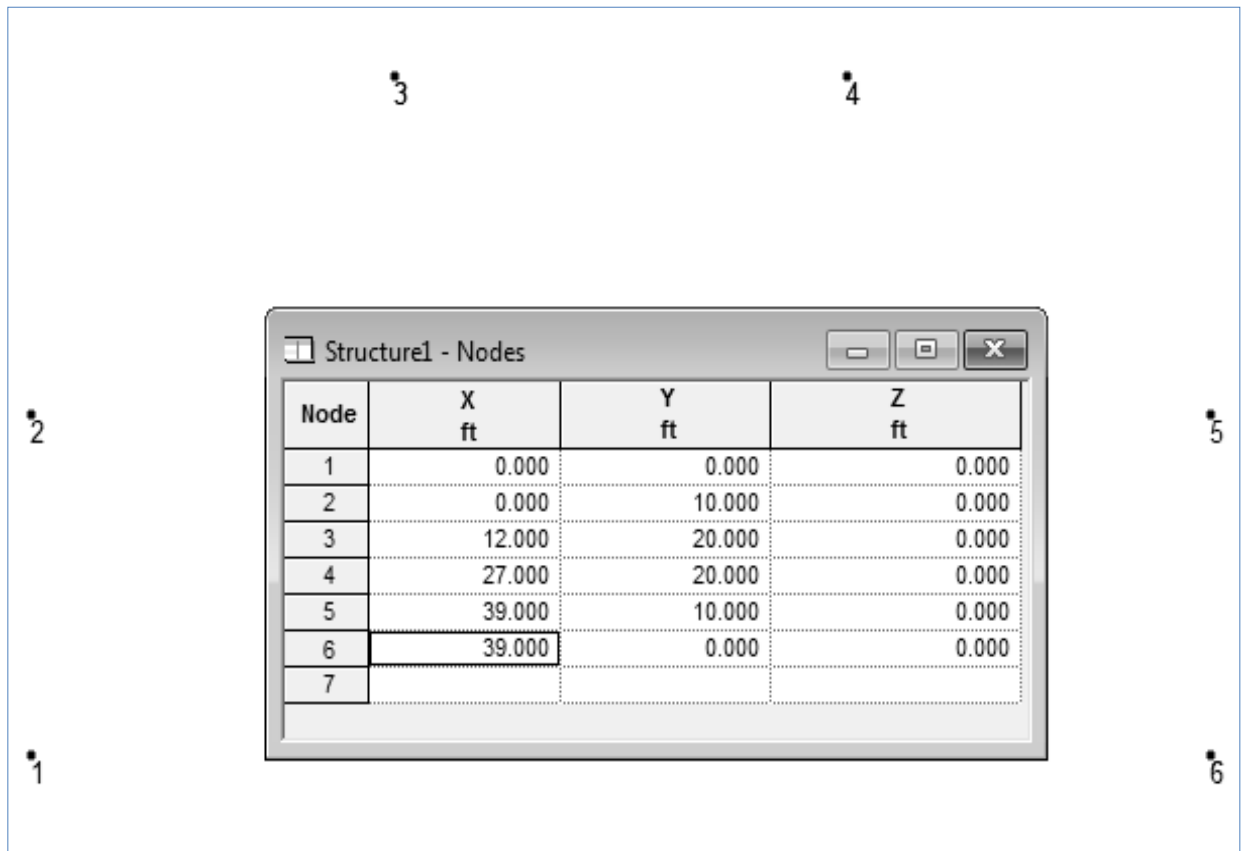
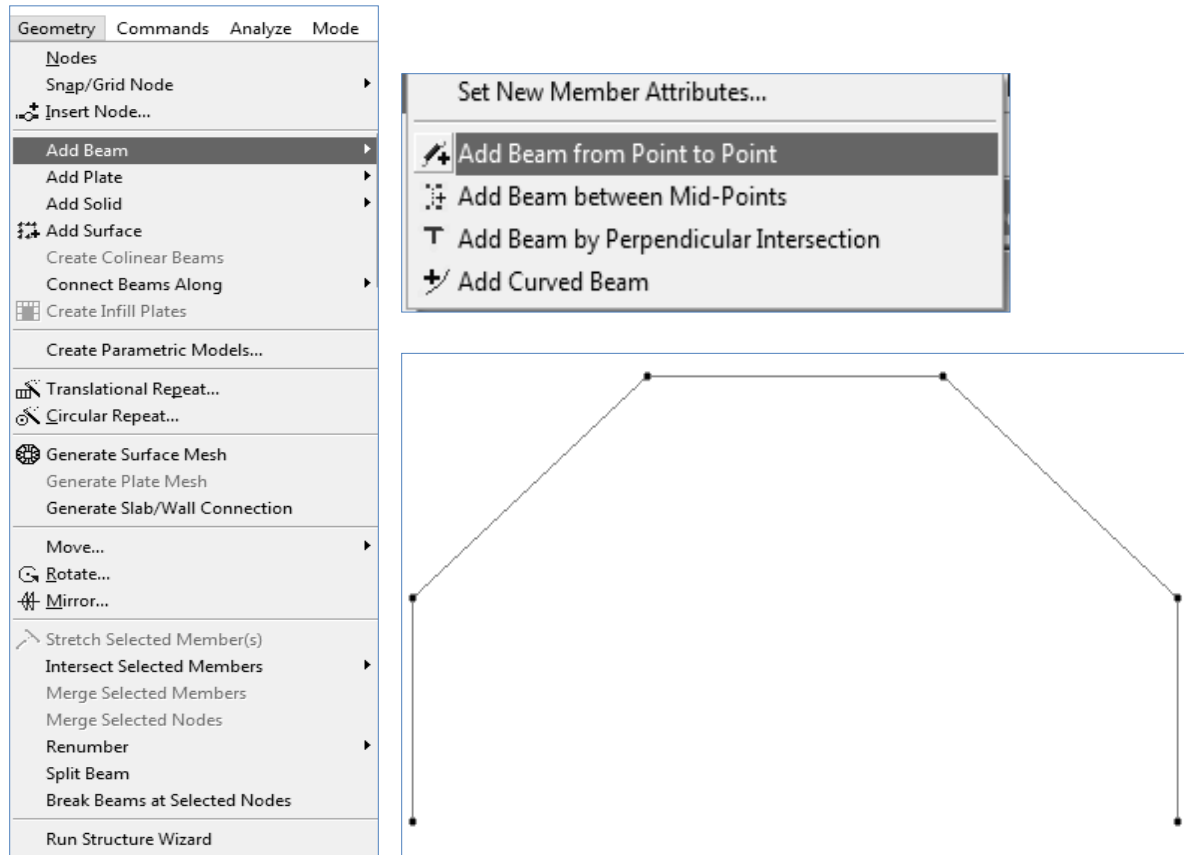

Fig: 3.3
Fig: 3.4
- 1.2 Now close the Default Grid window → Input the coordinates for point A (X=0, Y=0, Z=0), B (X=0, Y=10, Z=0), C (X=12, Y=20, Z=0), D (X=27, Y=20, Z=0), E (X=39, Y=10, Z=0), F (X=39, Y=0, Z=0), Then click on Geometry → Add Beam → Add Beam from point to point. (Fig: 3.3) & (Fig: 3.4)